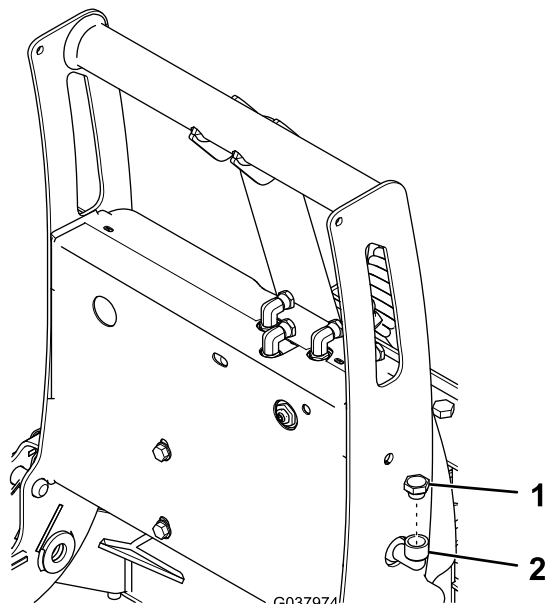

Figure 24
- Clean the area around the fill cap (Figure 24).
- Remove the fill cap from the hydraulic reservoir (Figure 24).